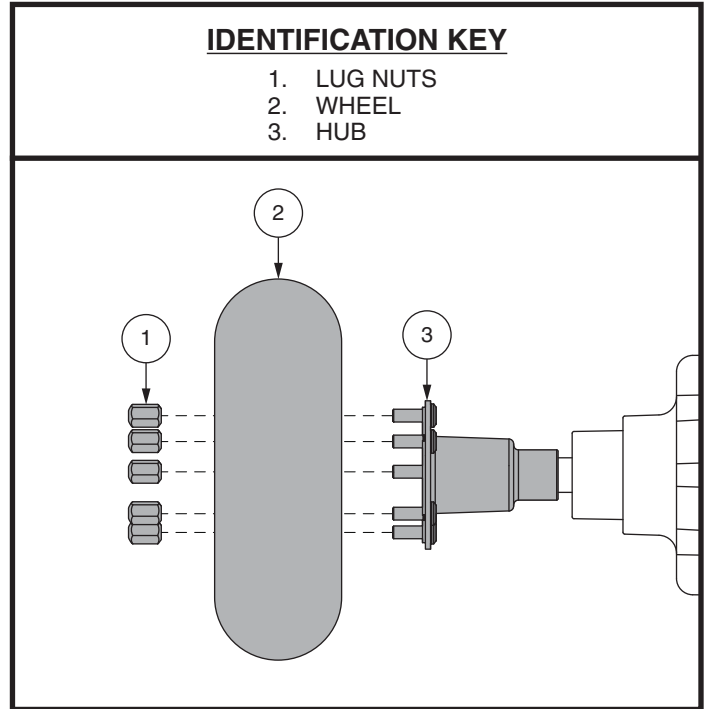

Figure 27. Wheel Replacement
4. Remove the lug nuts from the hub. **See figure 27.**